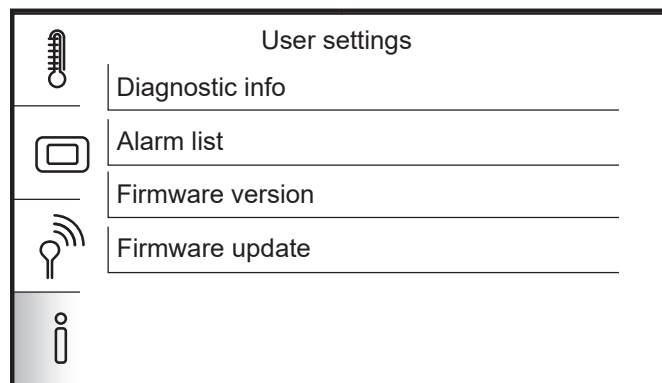

Figure H-3: Controller information options.
3. Tap the information icon at the bottom. Refer to Figure H-3.